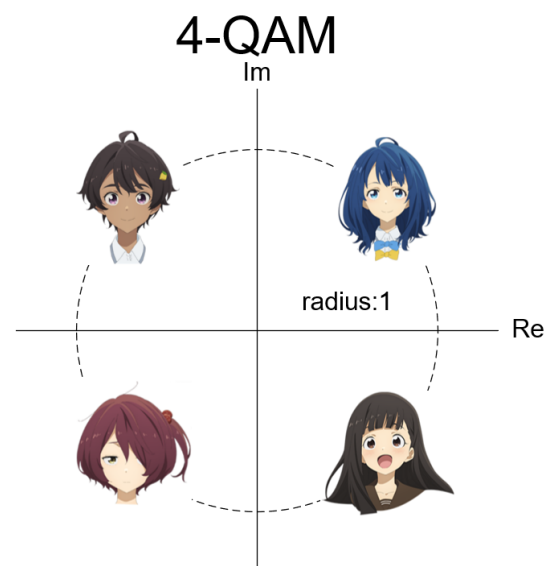

Fig. 2. The QAM constellation
5. To test the RIS guidelines **Balance** and **Randomness**, the fastest way is to perform 4-QAM modulation of the heroine series and analyze it in the frequency domain using FFT. The constellation diagram and the symbol definition are shown in Fig. 2 and Table 2.